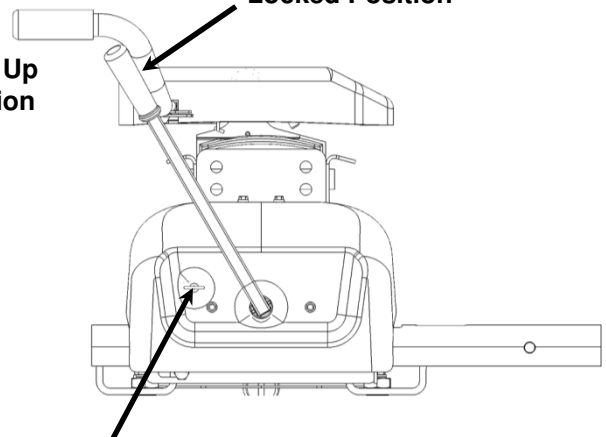

Figure 28c
7. Return to truck. Release emergency brake. Manually engage trailer brake and back truck rearward until FIFTH WHEEL Hitch stops and engages in the towing position (see Figure 28c).
12. Examine warning label. Handle should now be over the green range on the left side of the warning label (see figure 28c). If indicator pin is over red range on warning label, hitch in not properly locked in the towing position.